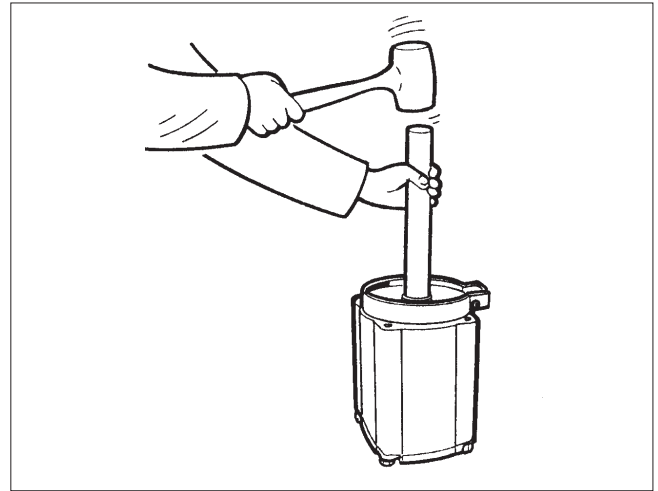
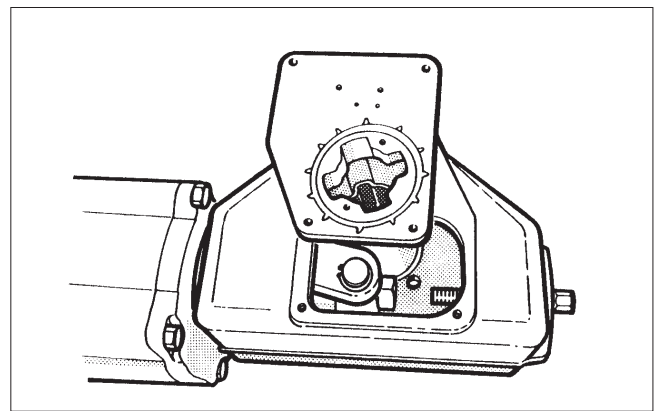
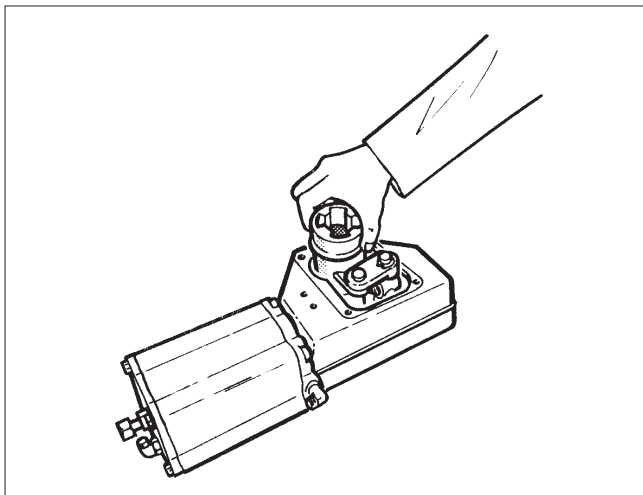

Fig. 11 Placing the piston in the cylinder
Fig. 12 Mounting the cover on the housing
Fig. 13 Removing the linkage from the housing
- Knock or press the piston through the tie ring with a press, Fig. 11.
- Mount the O-ring (19) and the cylinder and piston. Note the location of the air inlet: use the air inlet of the cylinder base as a guide. Tighten the screws (31). See Table 2 for torques.
- Apply locking sealant e.g. Loctite 225 to the threads of the fastening screw (29) of the bearing unit and tighten it. See Table 2 for torque.
- Fasten the housing cover temporarily so that the linkage bearings (3) function, but the linkage is still visible, Fig. 12. Note the grounding rings (3A, 4A).
- Spread the sealant (e.g. silicone sealant) on the surfaces between the housing and the cover. Fasten the cover, Fig. 12. See Table 2 for torques.
- Turn the lever (3) so that the bearing unit is detached from the piston rod (10). Lift the entire lever system out of the housing, Figure 13.
- Remove the lever bearings (23), the O-rings (17) and the grounding ring (3A).
- Install the grounding ring (3A), the lever bearings (23) and the O-rings (17). The grounding rings (3A and 4A) are needed to meet the ATEX requirements.
- Assemble the linkage and install in the housing. See Figure 13 for the correct position. Note the ring (4A).